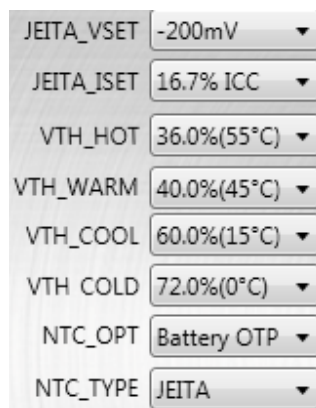

**Figure 15: Setting the Vsys\_min Threshold**
- The default value is 3.6V (see Figure 15).